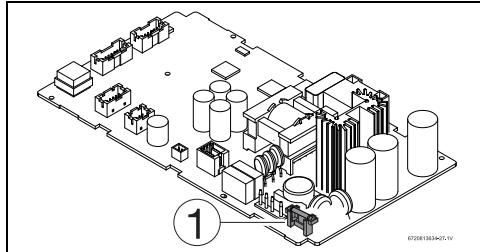

Fig. 38 Fuse position
- Check the fuse in the printed circuit board, for electrical continuity, see fig. 38, [1].